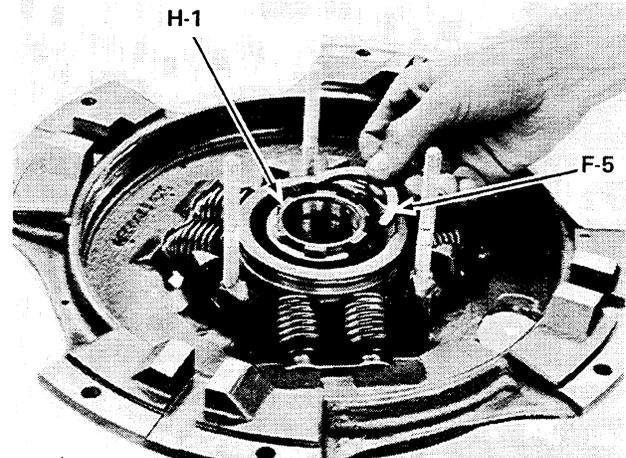

Figure 14:
12. Again, support release sleeve on tubing as in Step 10. Remove half ring locks (F-5). Now release sleeve and bearing assembly are free to slide through retainer toward rear of clutch (see Fig. 14).